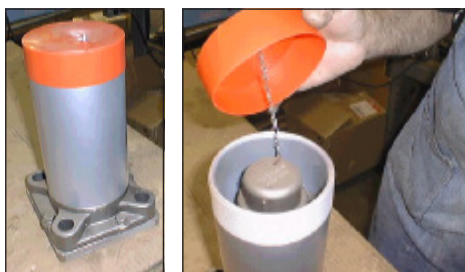

Figure 5 - Flue and Protective Cap
2.1.1 Remove the protective cap (Fig. 5) and cut the seal wire (item 18) to release the cap chain. Unscrew and remove the flue (tube) from around the valve.